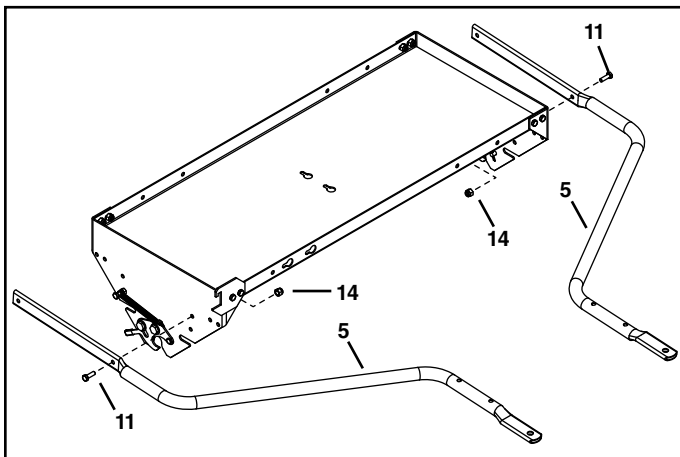

FIGURE 2
6. Attach the hitch tubes (5) to the third hole from the front of the tray assembly using two 5/16 x 1" hex bolts (11) and 5/16" nylock nuts (14). **Do not tighten yet.** See figure 2.
11. Attach the lift tube assembly (2) and the hitch tube (5) to the rear hole on the left side of the tray using a 5/16 x 1-1/2" hex bolt (10) and 5/16" nylock nut (14). **Tighten** the nut then loosen 1/2 turn.
12. **Tighten** the nuts and bolts shown in figures 2 and 3.